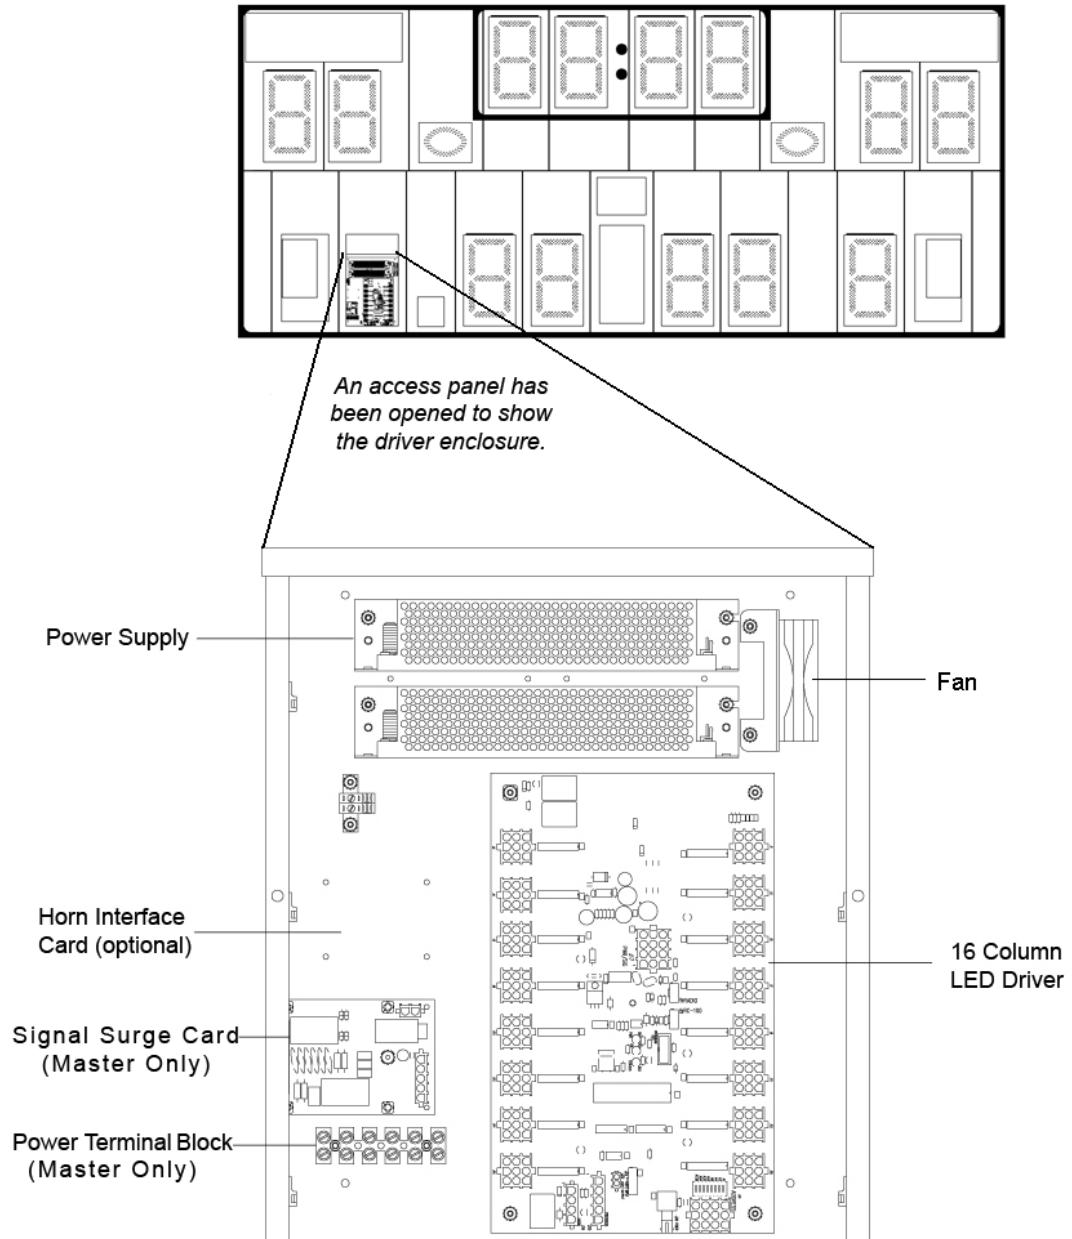

Figure 22: Driver Enclosure Location & Components
The LED drivers perform the task of switching digits on and off within the scoreboard. LED drivers are located inside of a driver enclosure. Refer to **Figure 22** to view the location and components of a driver enclosure.
4. Locate the power supply (**Figure 22**) and disconnect all wires connected to it.